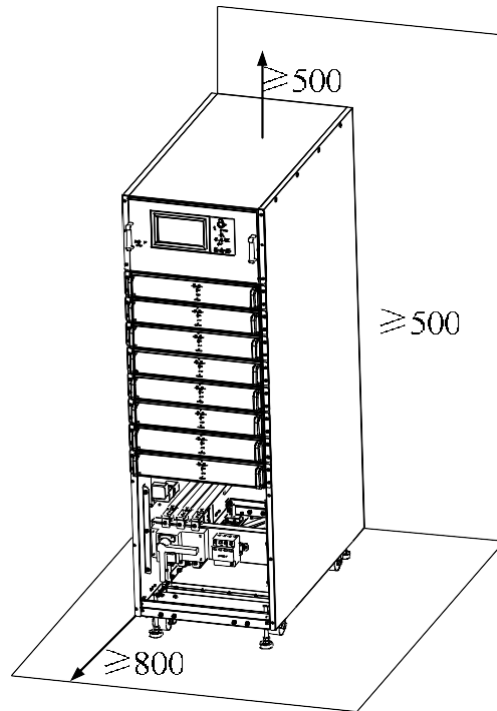

Figure 3-5 Cabinet space reservation schematic (unit: mm)
- Reserve at least 0.8 meters in front of the cabinet to replace the power module and bypass module. The cabinet should be reserved for at least 0.5 meters space in back for air flow and heat dissipation, As Figure 3-5 shows.